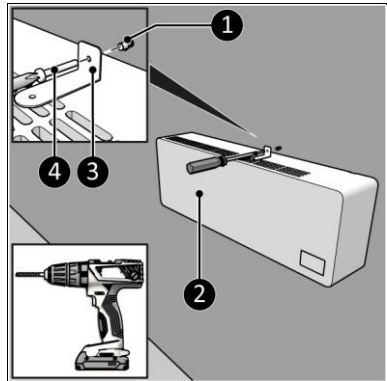

Figure 9
10. Place the supplied bracket on top of the heater (Figure 9, pos.2 ) with the short side against the wall.
13. Drill a hole at the marked spot and insert a plug (Figure 9, pos. 3).